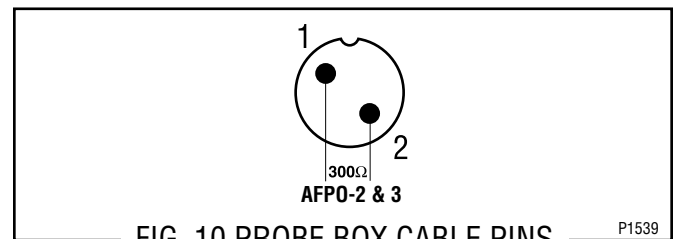

FIG. 10 PROBE BOX CABLE PINS
4. Check the resistance across the box cable pins, see Fig. 10.
5. With the probe box switch in the “LOW” position check the resistance across the pins, refer to Fig. 10.